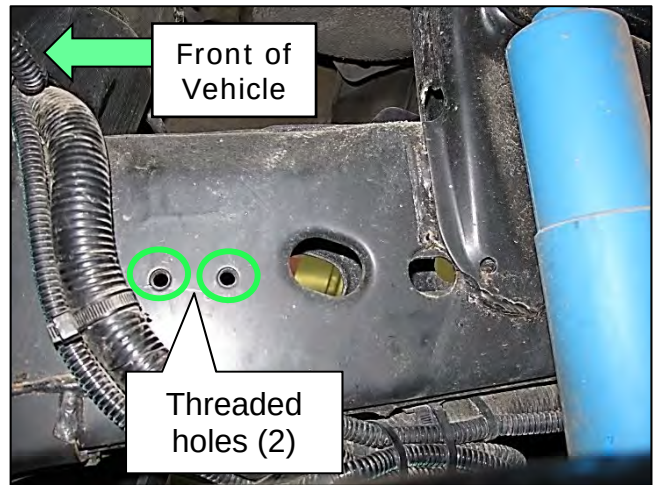

Figure 31
21. Locate the area shown in Figure 31 between the chassis harness and the right rear shock absorber on the passenger (RH) side inner frame rail.
- Locate the two (2) threaded holes in the inner frame rail between the chassis harness and the right rear shock absorber.